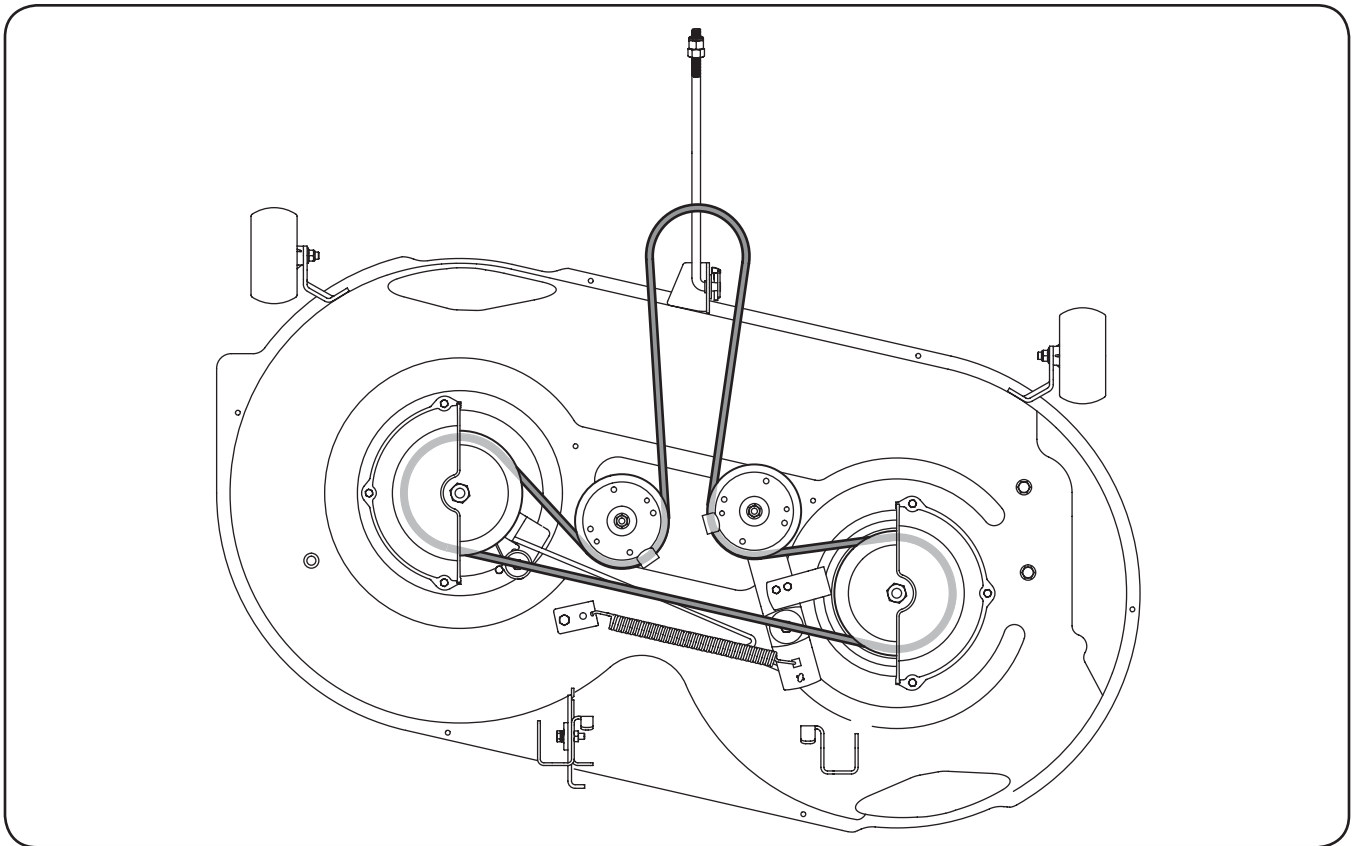

Figure 7-8
9. Re-install the deck, making sure the belt remains routed around the pulleys as instructed. See Fig. 7-8.